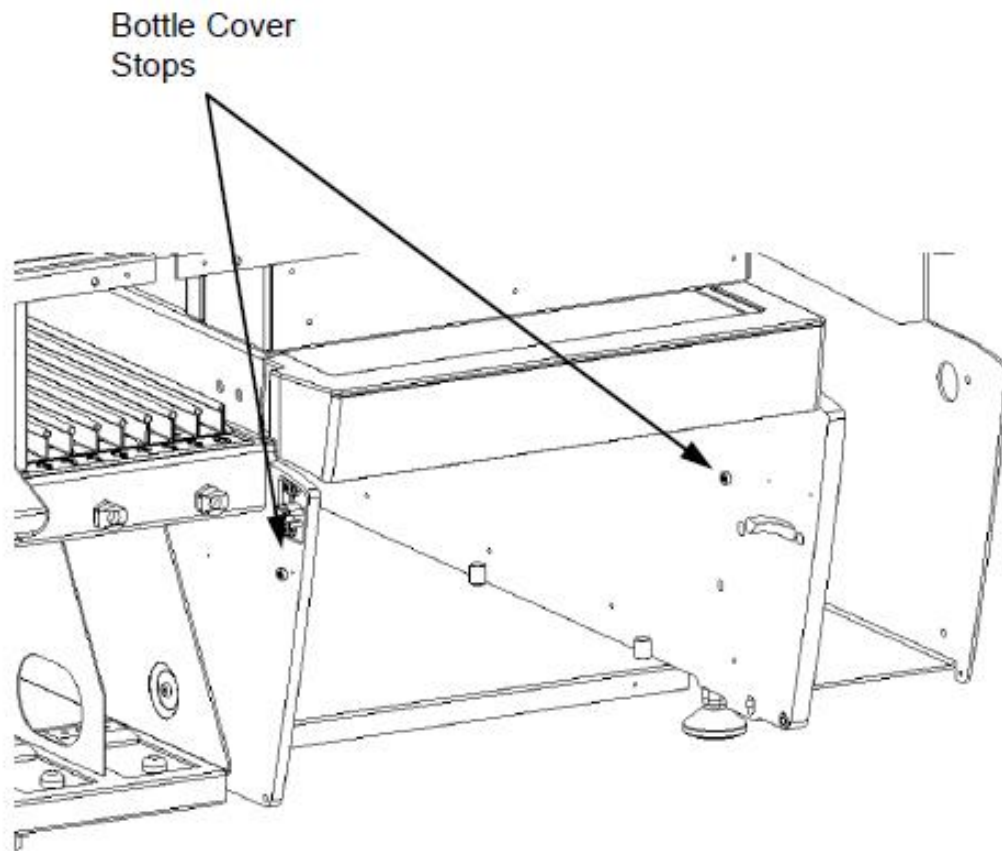

Figure E-2: Removing the Panel Door and Stopper
1. Remove the right hand panel and the two bottle cover stops shown in Figure E-2.